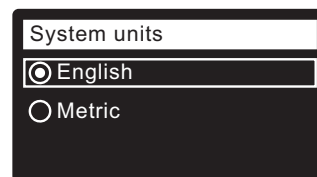

FIG. 25
9. **SYSTEM UNITS** If the desired system already has a dot next to it (See Figure 25), go to Step 10. Otherwise, press the DOWN (▼) or UP (▲) buttons to scroll to the desired system, then press the SELECT (O) button to choose it.
10. Press the SELECT (O) button.